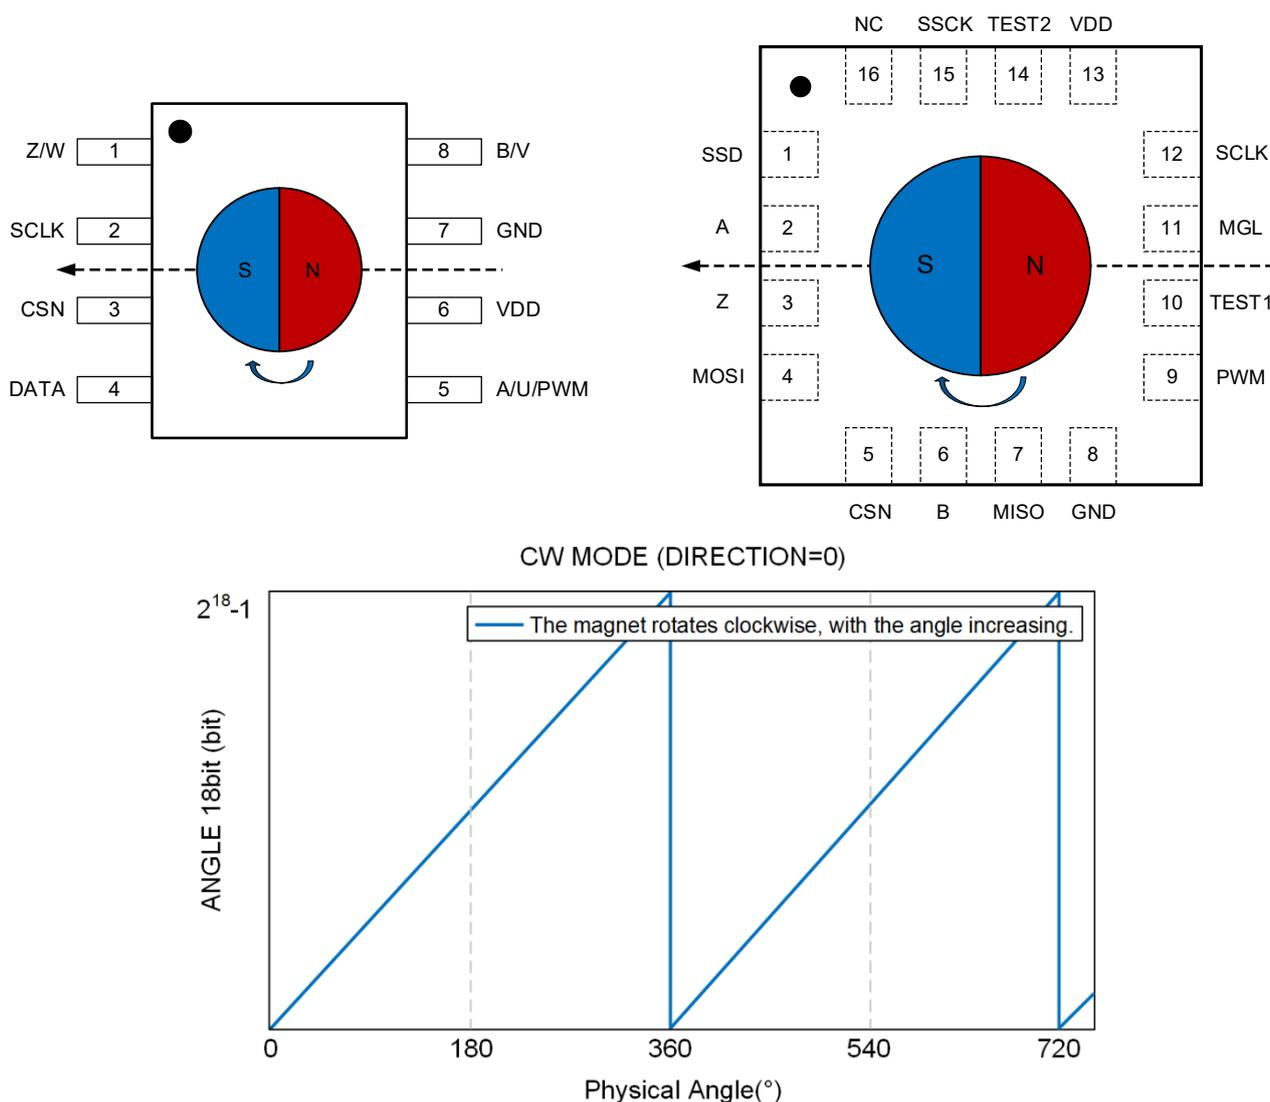
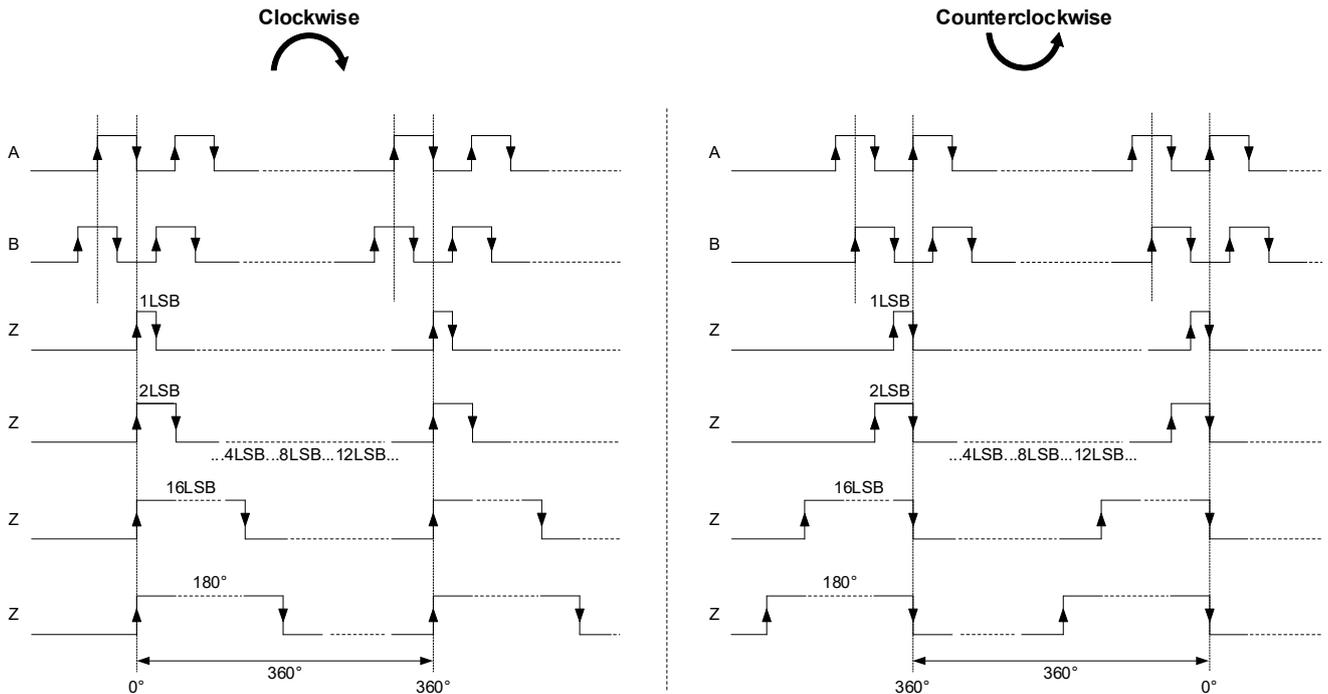

Figure 5. CW Mode: The Magnet Rotates Clockwise. Magnet-Chip Relation and Angle Output
Figure 7. ABZ Signal Output Diagram (Z Pulse Width Optional: 1/2/4/8/12/16LSB/180°)
With the magnet mounted directly above the chip and centers aligned, Figure 5 shows the top-view schematic and output data versus angle during clockwise rotation, while Figure 6 displays the same for counterclockwise rotation.
Figure 7 illustrates the output signals of A, B, and Z during clockwise (CW)/counterclockwise (CCW) magnet rotation. For CW rotation (refer to Figure 5), the A signal lags the B signal by a quarter-period. For CCW rotation (refer to Figure 6), the A signal leads the B signal by a quarter-period. The Z signal indicates the 0° angular position, generating one pulse per 360° magnet rotation. The Z-signal high-level pulse width is user-programmable via register Z_WIDTH[2:0] to achieve specific duty cycle requirements. Alternatively, the Z high-level width can be set to 180°, where one complete Z pulse cycle (high + low states) constitutes a 360° signal output.